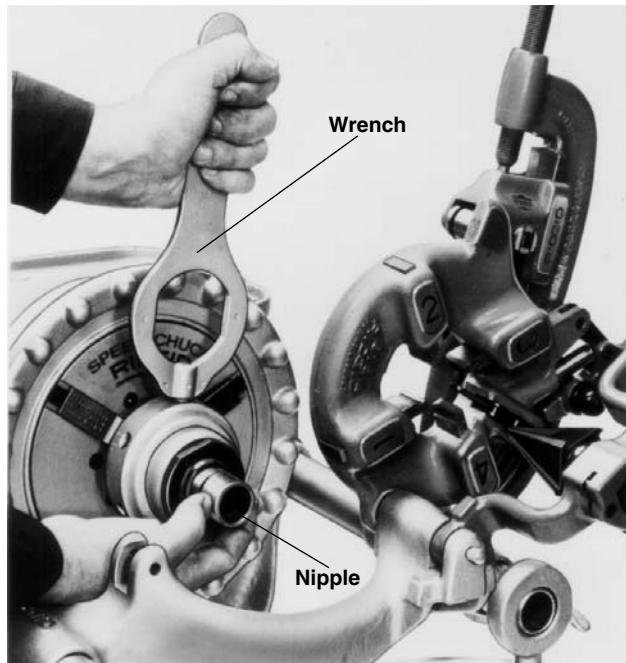

Figure 25 – Releasing Nipple from Nipple Chuck
- Insert pin on end of wrench (*Figure 25*) into one of holes in nipple chuck release collar and turn. Remove threaded nipple by hand.